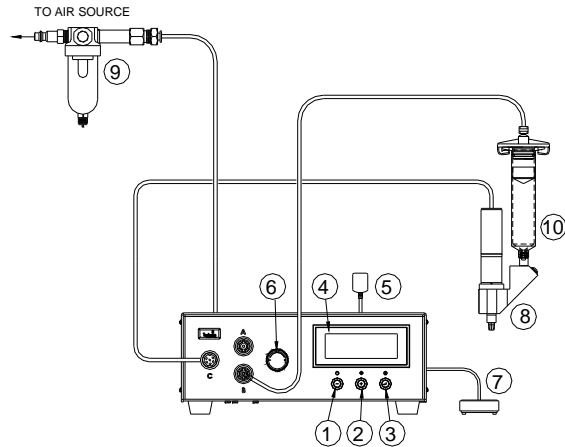

Figure 6.0
5.3.1 Connecting The Unit: (Refer to Figure 6.0 for detail)
5.4.2 Connecting The Unit: Refer to Figure 6.0 for details